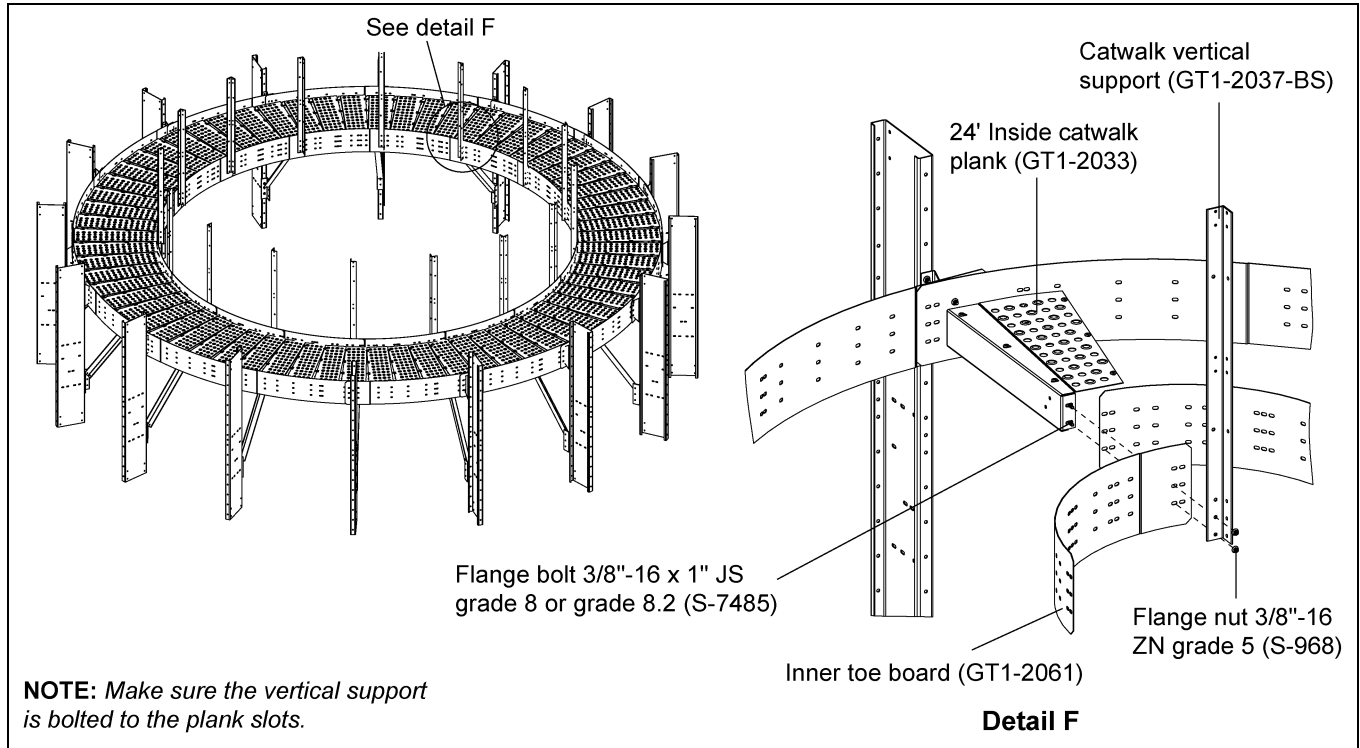

Figure 5J
1. Install all the inner toe boards (GT1-2061) to the planks (GT1-2033). (See Figure 5J.)
2. When installing the inner toe board with planks, install the catwalk vertical support (GT1-2037-BS) simultaneously at proper locations using 3/8"-16 x 1" JS grade 8 or grade 8.2 bolts (S-7485) and 3/8"-16 ZN grade 5 nuts (S-968). (See Figure 5J.)